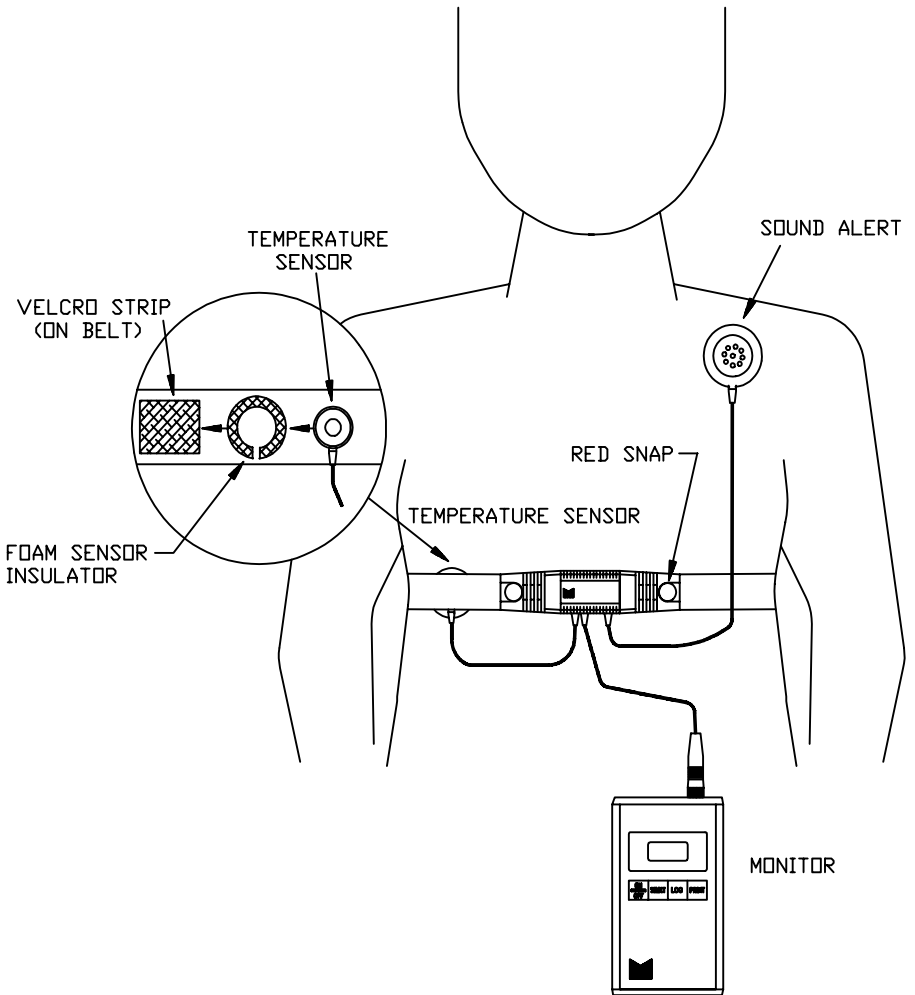

Figure 2.2 - Correct Sensor Belt Position
Refer to figure 2.2 for properly wearing the sensor belt assembly.
4. Position and secure the sensor belt around the chest (just below breast area), directly on the skin as shown in Figure 2.2.